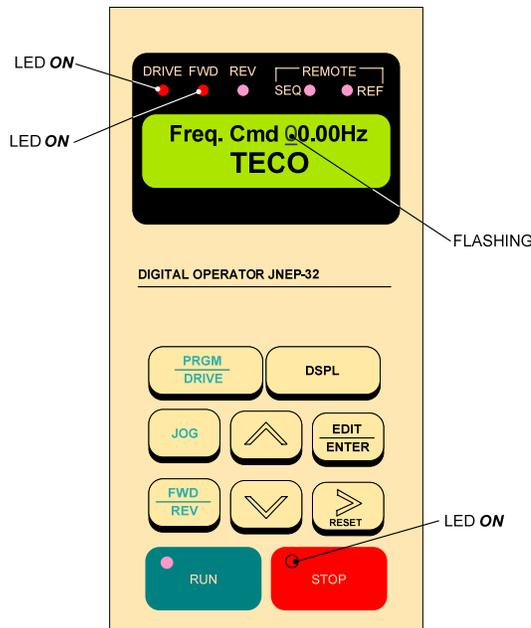

Fig. 1 PA7300 KEYPAD
- Apply AC power to the Inverter and observe the LCD Display Line 1; it should read “Freq. Cmd 00.00Hz”. Line 2 should read “TECO”. The red LED on the **STOP** key should be ON. The **DRIVE** and **FWD** LED’s should be ON. (See Fig. 1 below)
Press the  Key to return to the output frequency display as in Fig. 1.
Press the  to return to the output frequency display as in Fig. 1.